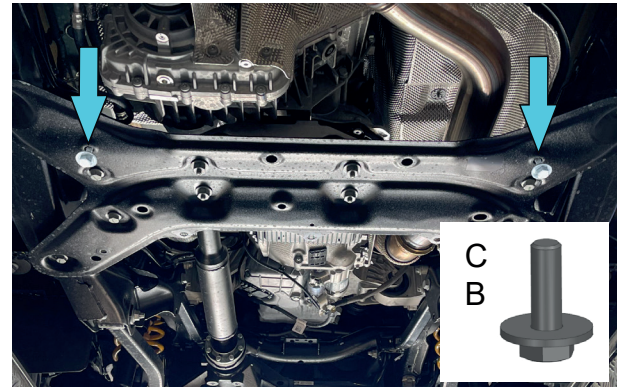

Fig. 2
2. Slightly screw bolts M10x30 with washers 10 (item B, C) into insert nuts M10 from step 1 (fig. 2).